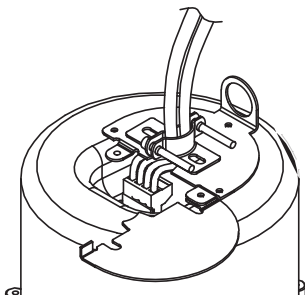

Figure 14: Secure cable through fitting
1. If plenum cable is used, slide the wiring through the strain relief fitting on the terminal cover plate (Figure 14). Hold the strain relief fittings tight around the cable. Tighten the strain relief screws first, then the horizontal screw. In the cases of insulated speaker wire and plenum cable, it is often possible to provide acceptable strain relief force by simply tightening the strain relief screws onto the terminal cover plate.